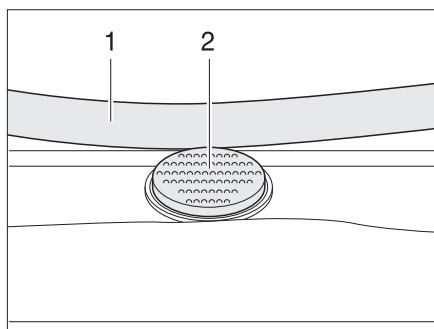

Fig. 29 Securing knob at the hinged skylight
- Press the safety knob (Fig. 29,2) and pull the bar (Fig. 29,1) down with both hands.
- Push the bar upwards with both hands until it is above the safety knob (Fig. 29,2).